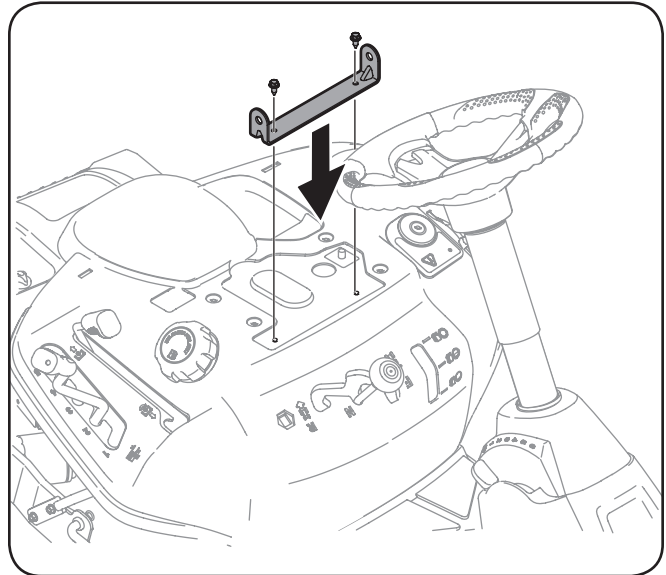

Figure 3-4
1. Remove the two self-tapping bolts factory installed on the tractor and place the seat bracket in place over the holes. See Figure 3-4.